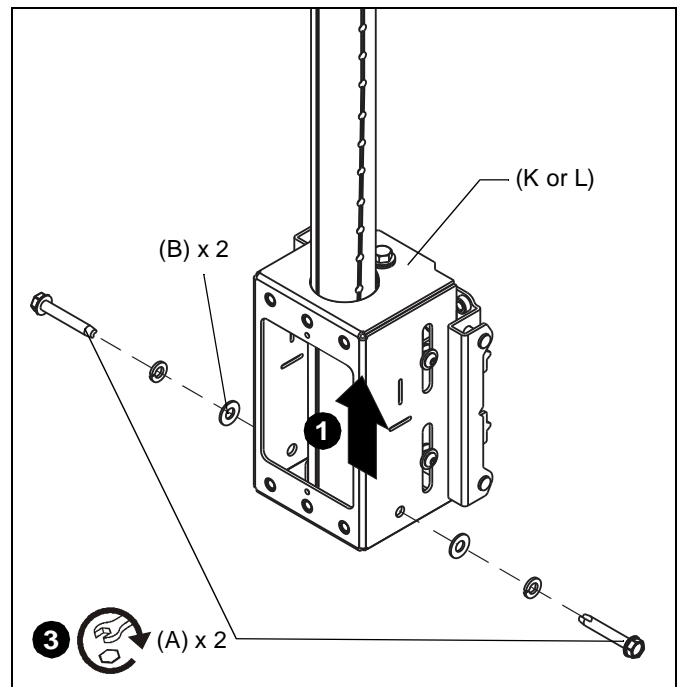

Figure 3
1. Slide ceiling head (K or L) up from below onto installed column (not included). (See Figure 3)
3. Install two 5/16" x 2" self-tapping screws (A) through two 5/16" lock washers (C), two friction washers (B), sides of ceiling head (K or L), and into installed column. (See Figure 3)